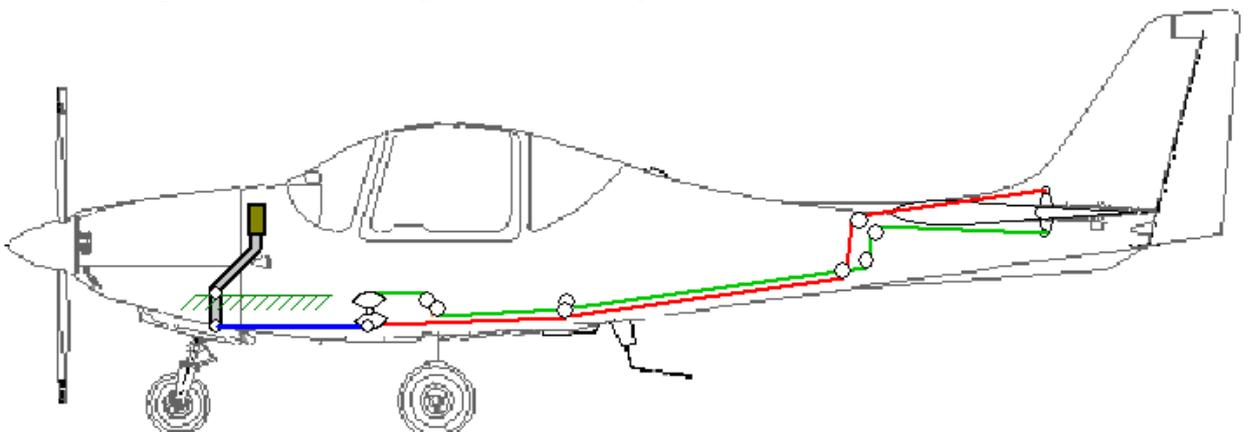

Fig 6.3
5. An example is sketched in fig. 6.3, where the cabin column is linked via a rod to a quadrant, which the cables are connected to.